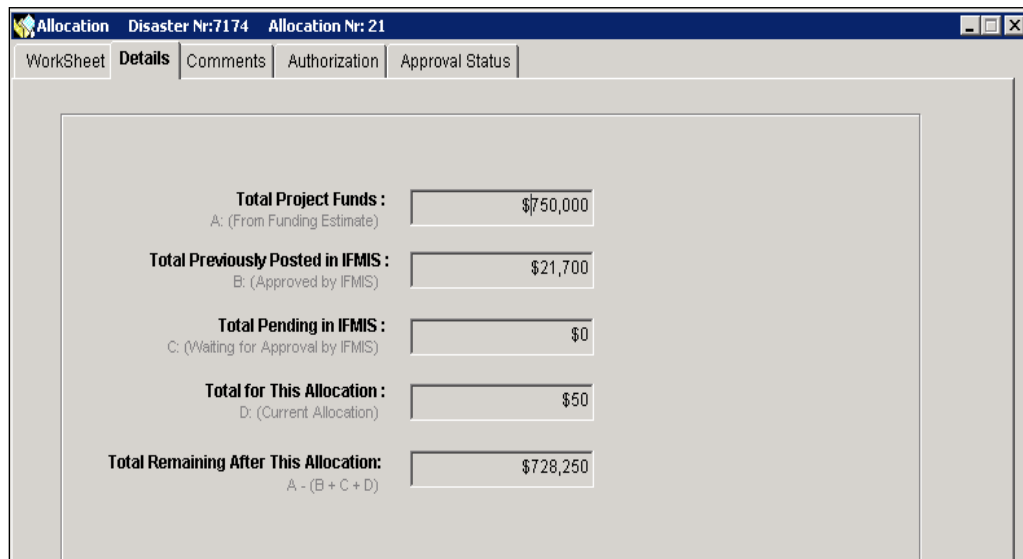

Figure 10-14: Mitigation > Funding > Allocations > Details Tab
19. Click the **Details** tab. The cumulative Allocations requested thus far are displayed (Figure 10-14).